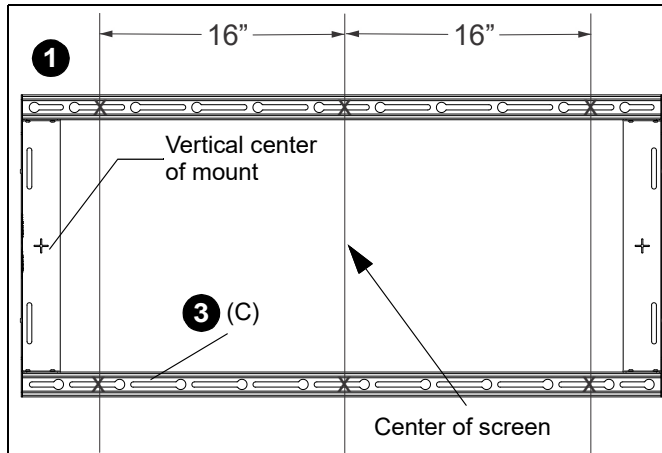

Figure 14
2. Using a level, mark the wall at mounting hole locations at least 16" apart from each other. (See Figure 14)